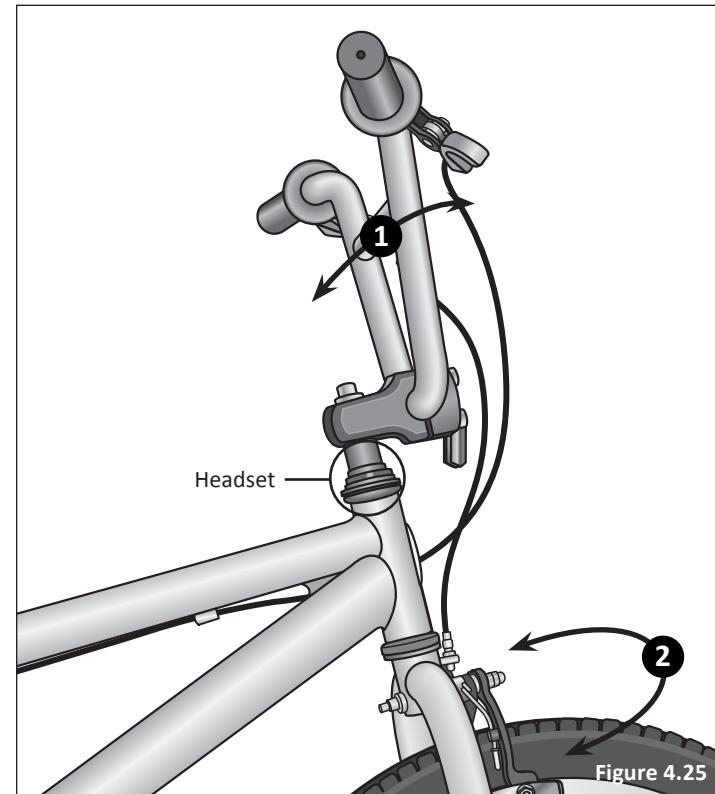

Figure 4.25
**1 Shakiness:** Apply the front brake and push the handlebars back and forth, front to back. Or if the bicycle is on a workstand and the front wheel removed, push and pull on the forks. If you feel a knocking sensation or "clunk" it means the headset is too loose. **Figure 4.25**